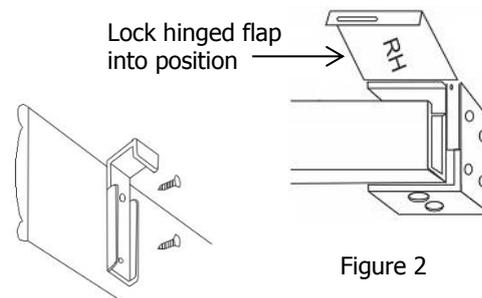

Figure 2
- Insert headrail into mounting brackets (part A) (Figure 2) and lock hinged flaps down to hold headrail in position
- Screw the pelmet clips (part C) the back of the pelmet supplied, flush with the top of the pelmet (Figure 2)